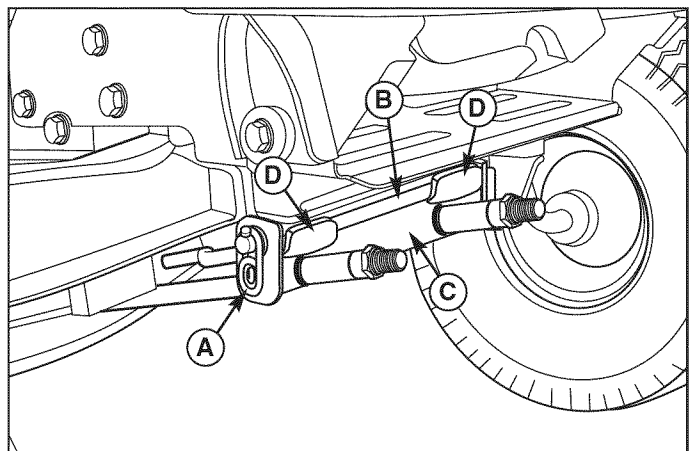

Figure 6. Mower Hitch
6. Turn wheels straight ahead. Support the mower hanger (C). Remove safety clip (A, Figure 6) and rod (B). Lower the mower hanger (C).
3. Turn wheels straight. Lift the mower hanger (C, Figure 6). Insert rod (B) through mower hanger (C) and tractor brackets (D). Secure with safety clip (A).